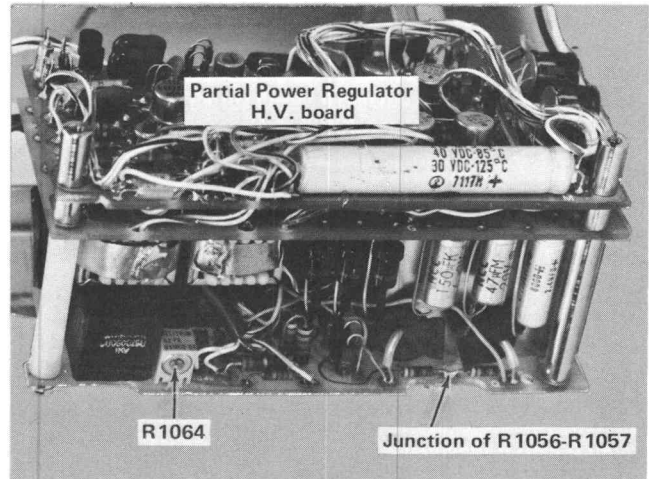

Fig. 5-8. Intensity Limit adjustment. Location of cathode current measurement point and R1064.
a. Unsolder the junction of R1056-R1057 (see Fig. 5-8) and lift the ends of the resistors clear of the circuit board. Connect the two resistor leads together and connect to the positive lead of the VOM set to read $600 \mu\text{A}$, full scale. Connect the negative lead to the point on the circuit board to which the resistors were originally connected.
c. ADJUST—R1064 (see Fig. 5-8 for location) for a meter reading of $315 \mu\text{A}$.